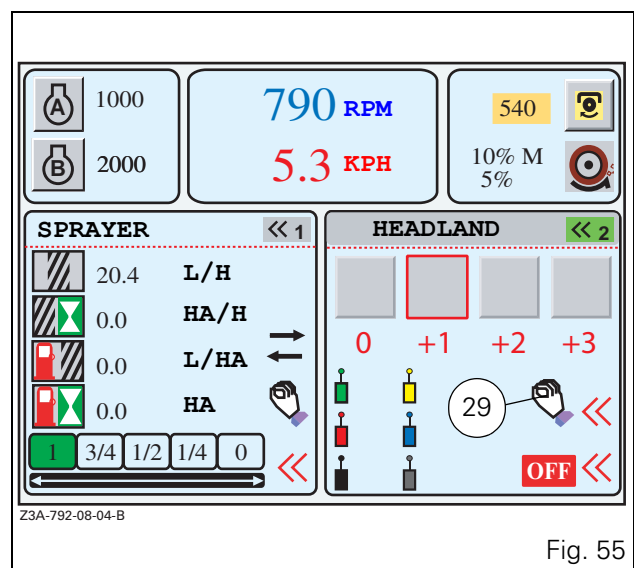

Fig. 55
- Validate by pressing the encoder or the key <<2. The window (Fig. 55) is displayed.